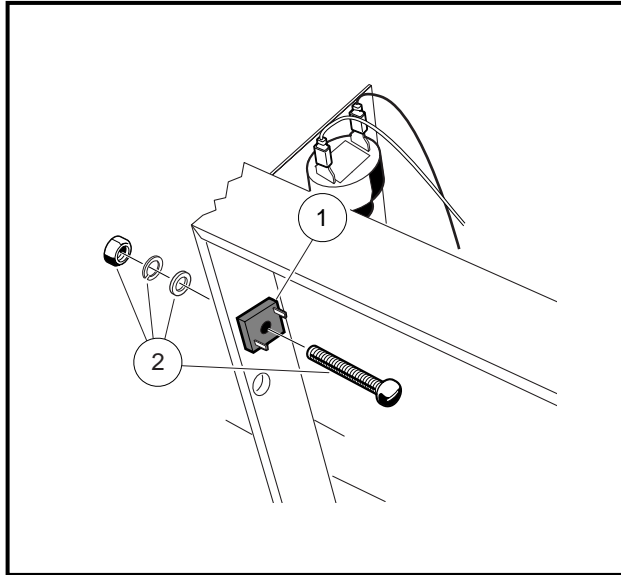

Figure 12-31 Headlight Diode
3. Disconnect wires from the headlight diode (1) (**Figure 12-31, Page 12-30**).
4. Remove the mounting hardware (2) from the headlight diode and remove it from the vehicle.
1. Mount the headlight diode to the frame using the mounting hardware. Tighten to 25 in-lb (2.8 N·m) (**Figure 12-31, Page 12-30**).